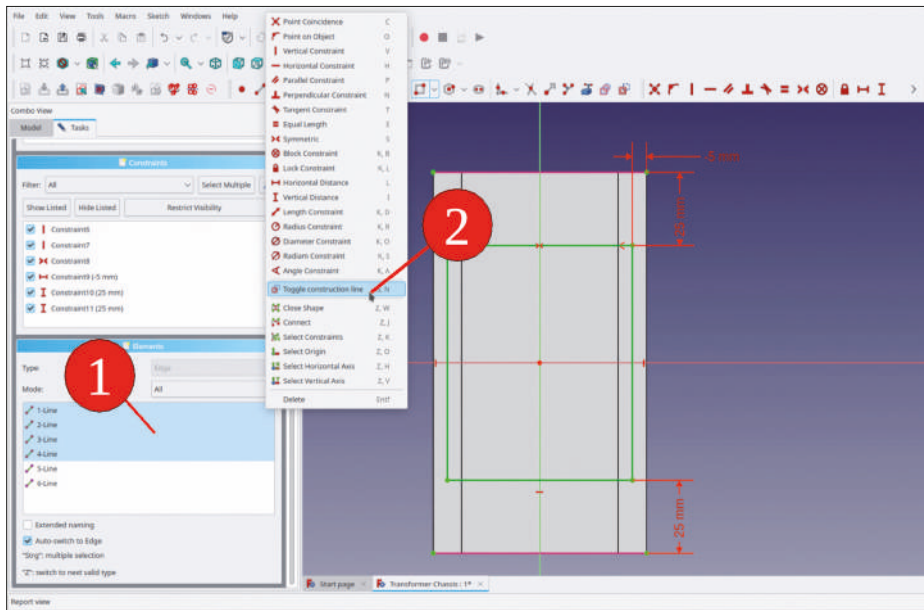

Figure 9-71
8. In the 'Elements' list, mark the 4 lines of the rectangle. Right-click the selection and select 'Toggle construction line' from the context menu (Figure 9-71). This turns the rectangle into a useful construction geometry which helps to keep the holes in place, even when front panel and rear panel are moved by unequal amounts.